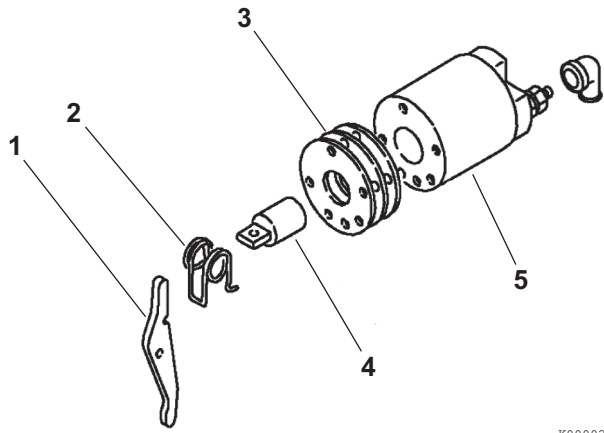

Figure 11-28
4. Apply a small amount of high temperature lithium grease (obtain locally) to the sliding portions of the shift lever (Figure 11-28, (1)). Reassemble the torsion spring (Figure 11-28, (2)), shift lever and dust cover(s) (Figure 11-28, (3)), plunger (Figure 11-28, (4)) and magnetic switch assembly (Figure 11-28, (5)).